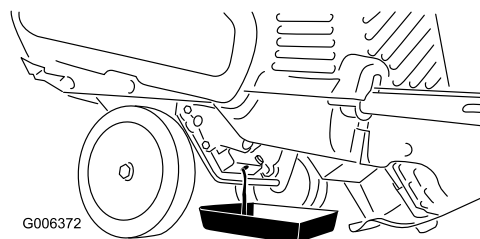

Figure 27
- Place an oil drain pan under the oil drain plug, remove the oil drain plug, and tip the snowthrower backward and drain the used oil in the oil drain pan (Figure 27).